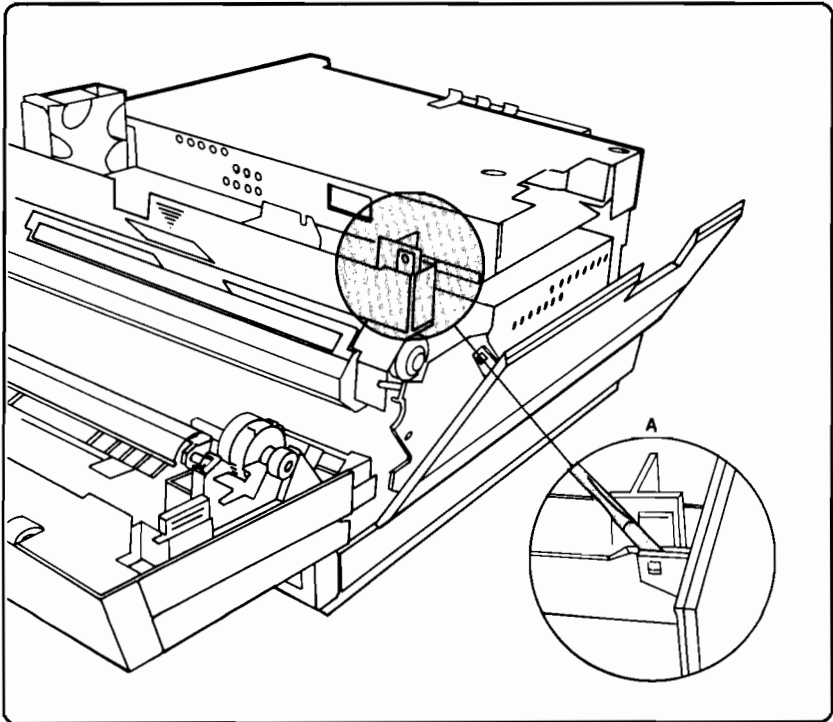

Figure 6-21. Right Side Cover Removal
2. Use a small flat-head screwdriver to unlatch the Right Side Cover (see Figure 6-21, detail A).